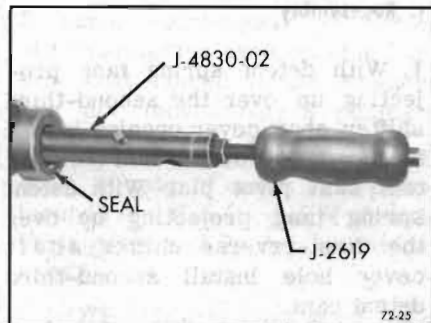

Figure 72-414—Removing Case Extension Oil Seal
1. Using J-2619 slide hammer and J-4830-02 puller, remove case extension oil seal. See Figure 72-414.